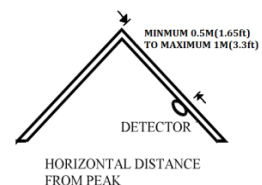

Figure 5:
- If some of your rooms have sloped, peaked, or gabled ceilings, try to mount alarms 3 feet (0.9 meter) measured horizontally from the highest point of the ceiling as shown in Figure 5.